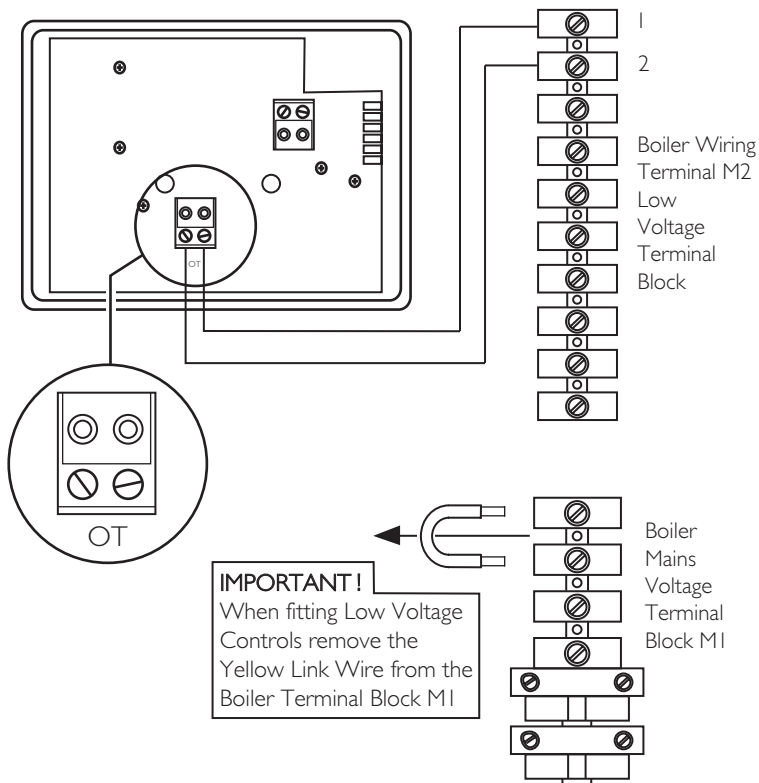

Fig. 9. Receiver Backplate
NOTE: The yellow link wire across terminals 1 & 2 on the Boiler terminal block 'M1' must be removed when fitting this Low Voltage control system. Fig. 9.
1. The Receiver should be wired to the boiler as shown in Fig. 9.
5. Connect the wires to the 'OT' connection on the terminal block. Fig. 9. Note this is removable for ease of wiring.
3. Error 83 is due to the Receiver not communicating with the boiler. Check the wiring between the Receiver and boiler. Fig. 9
- The wiring is correct between the Receiver and boiler. Fig. 9